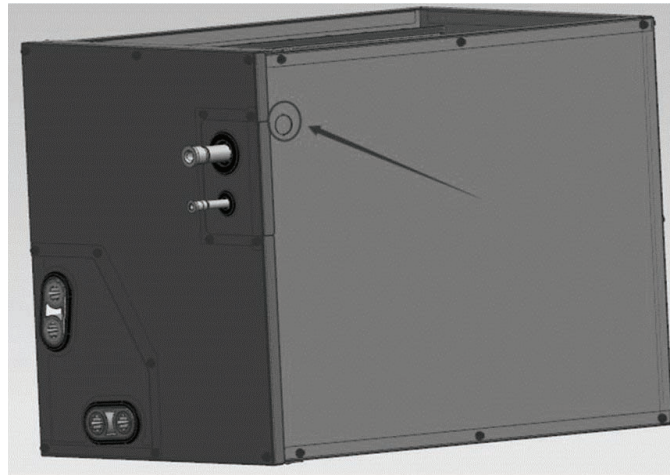

Fig. 13 — T2 Drill Point Location
1. Locate the marking on the coil cabinet for marking. If there is no marking, the location for drilling will be the upper left or upper right side of cabinet depending on install orientation (see Fig. 13).